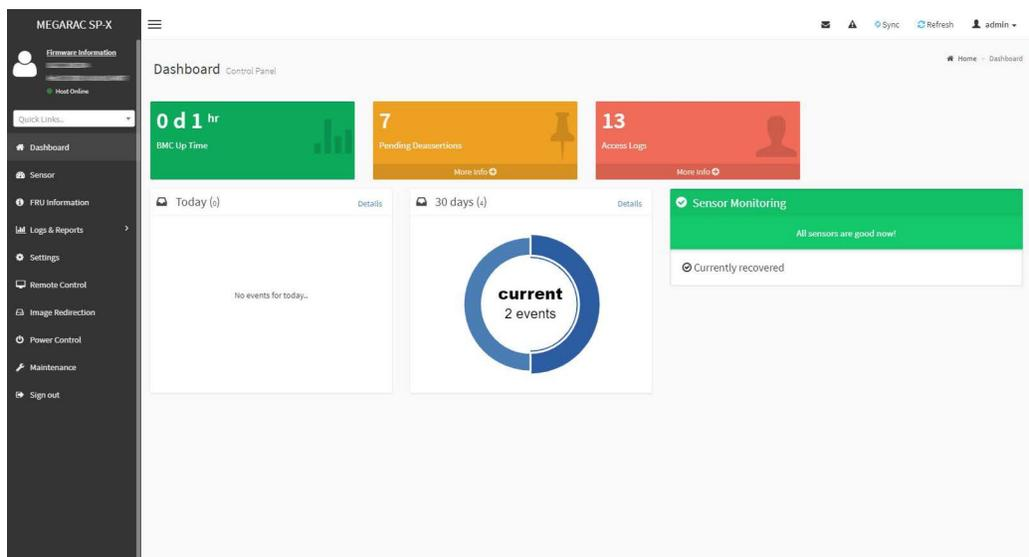

Figure 7.10 Dashboard menu
4. The BMC WebUI automatically displays the **Dashboard** tab as shown in Figure 7.10. Device, network, sensor monitoring, and event log information is presented.